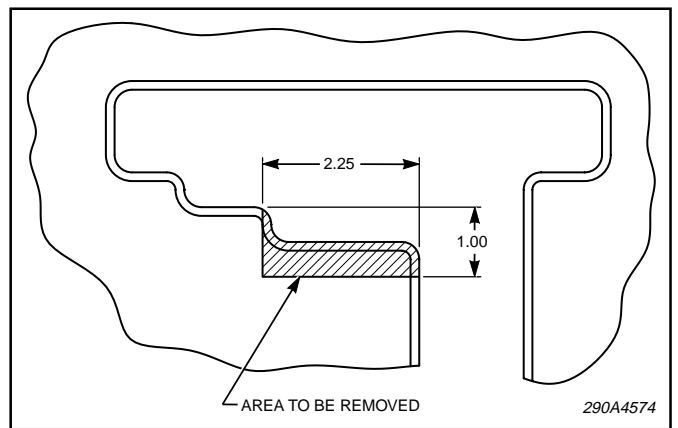

Figure 8.
9. See figure 8. Remove area indicated in the plastic panel (removed in step 2) as shown.